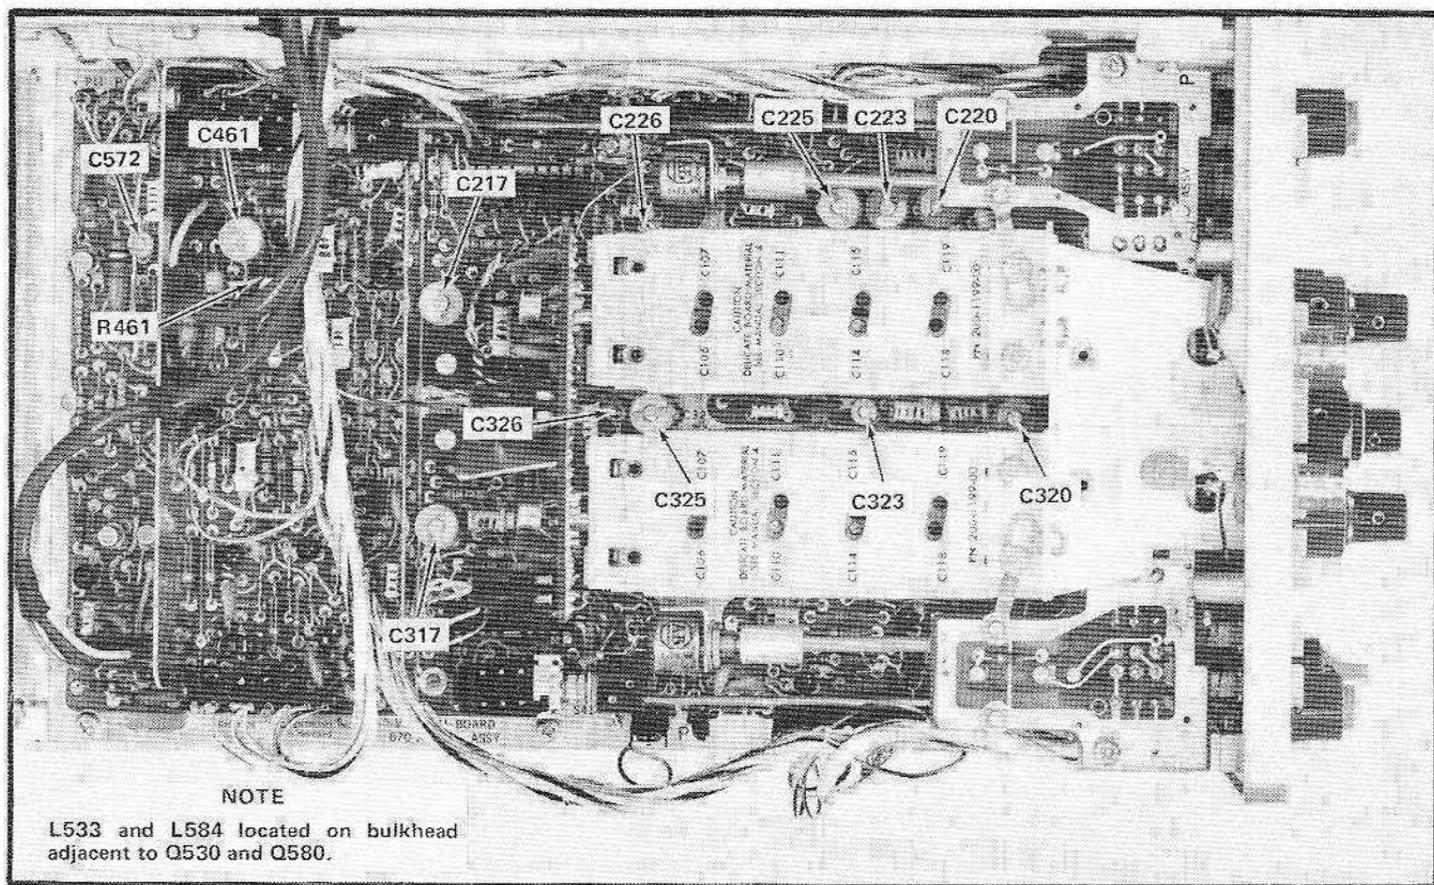

Fig. 5-9. Location of vertical system high frequency compensation adjustments.
g. ADJUST—C217, C226, C461, R461, C572, L533, and L584 (see Fig. 5-9) for optimum risetime and aberrations typically less than +2%, -2%, or a total of 2% peak to peak (+3%, -3%, a total of 3% peak to peak if this measurement is being made outside of the +20°C to +30°C temperature range).
m. ADJUST—C317 and C326 (see Fig. 5-9) for optimum risetime with aberrations typically less than +2%, -2%, or a total of 2% peak to peak (+3%, -3%, or a total of 3% peak to peak if this measurement is being made outside of the +20°C to +30°C temperature range).
ac. ADJUST—Refer to Table 5-3 for the correct adjustment and tolerances. See Fig. 5-9 for adjustment locations.